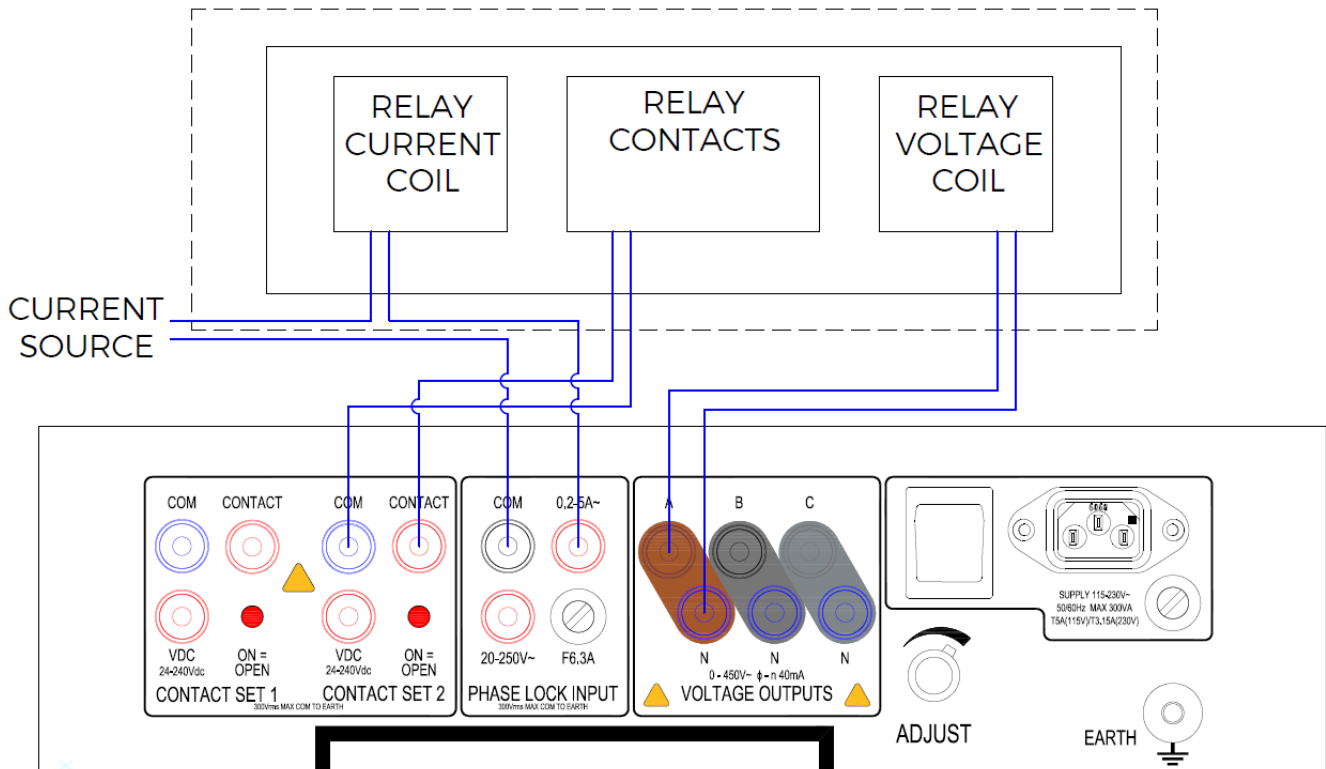

Figure 3.5 Connections for directional relays
- Connect an auxiliary supply to the relay if required (not shown in figure 3.5). The auxiliary dc supply output from the 200ADM-P may be used for this purpose.